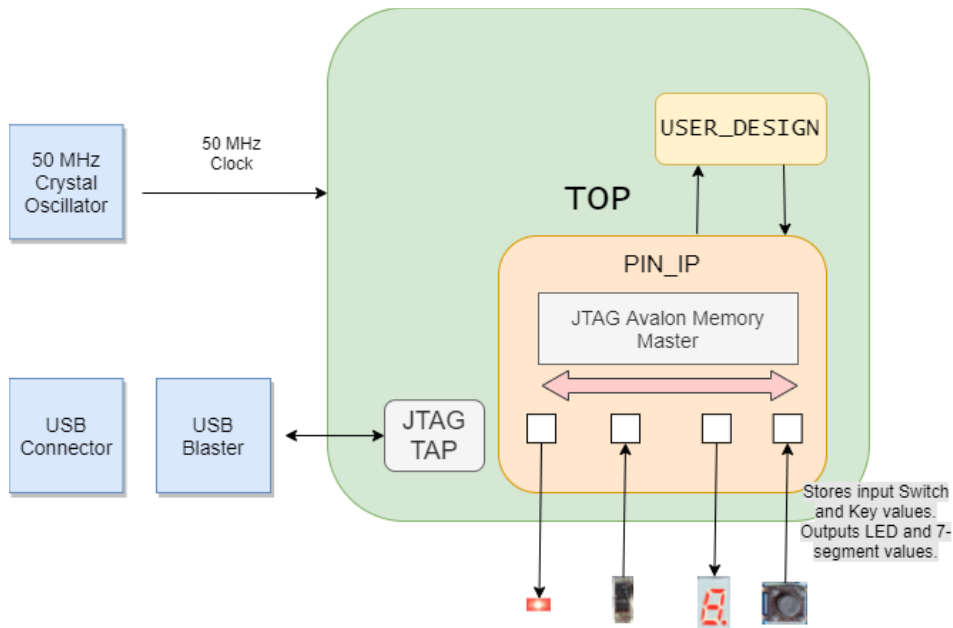

Figure 6: Remote Board Functionality Diagram
If you had a board in your hands, you would need to use the **Pin Planner** to tell Quartus what FPGA pins on the DE10-Lite development board are connected to the switches and LEDs used in the circuit. Because our board is working remote, the pins have already been assigned for you. To understand the process, refer to the diagram on Figure 6 below.
- As seen in Figure 6, at the **Top** level the only pin that goes to the FPGA is the clock. This signal is synchronization signal for the overall design. This input at the **Top** level is necessary because the complex module that handles communication wirelessly requires a clock.